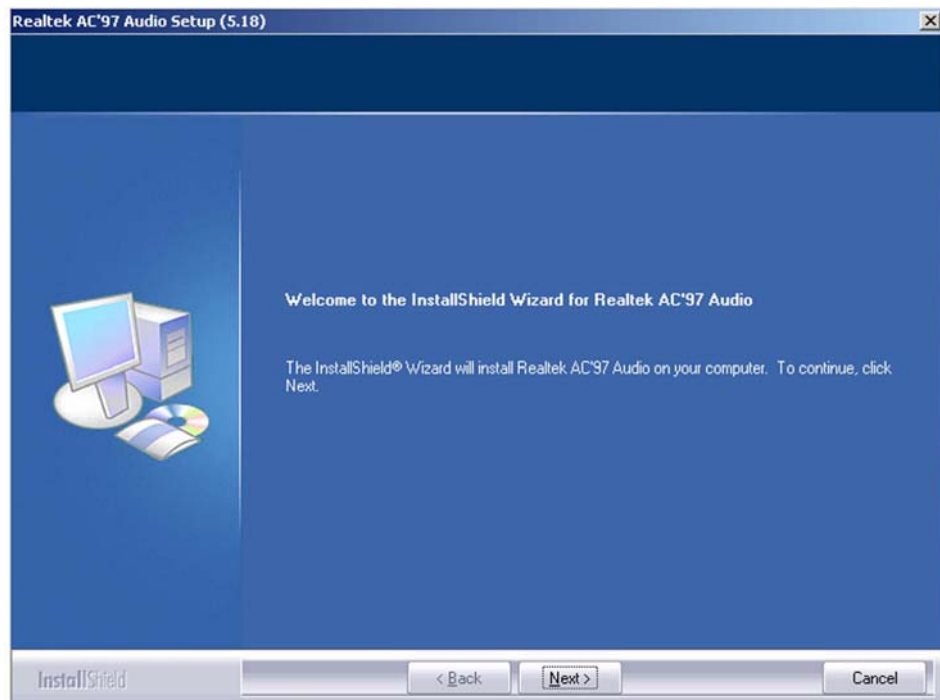
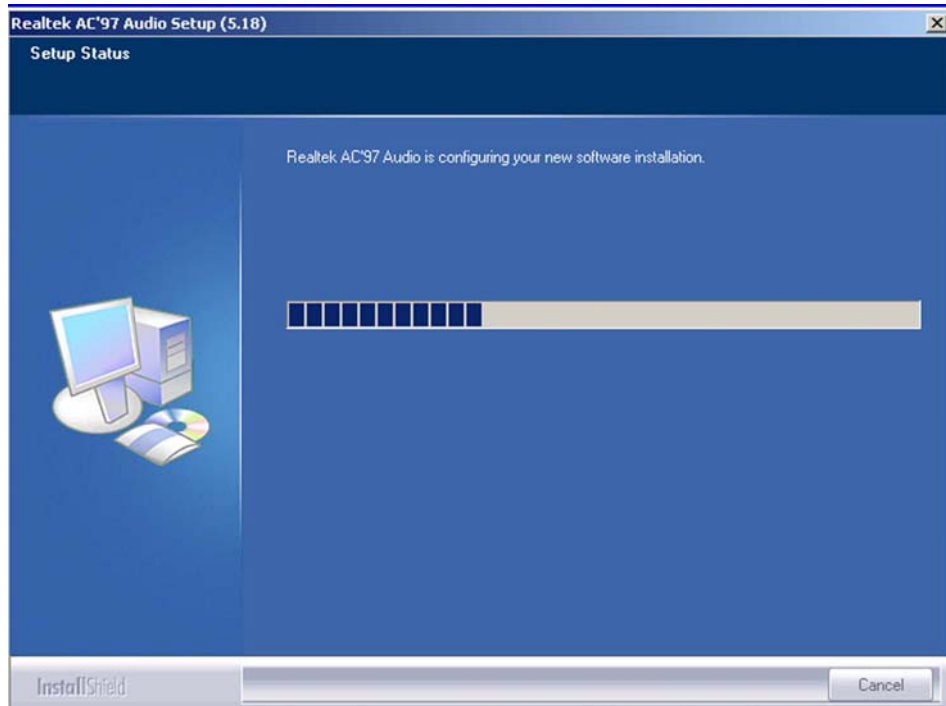

Figure 6-14: Audio Driver Welcome Screen
Figure 6-15: Audio Driver Software Configuration
Step 6: The welcome screen shown in **Figure 6-14** appears. Click the “**NEXT**” button to continue the installation. The install shield starts to configure the new software as shown in **Figure 6-15**.